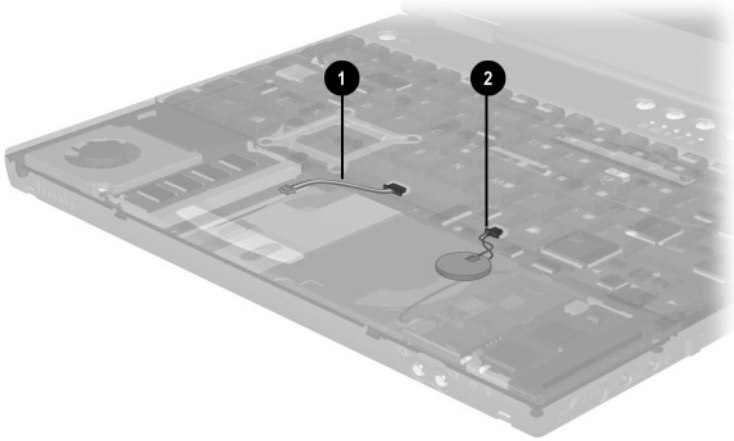

Figure 5-11. Routing the RTC Battery and TouchPad Cables
Before installing the palm rest on TouchPad models, make sure the TouchPad ❶ and RTC battery cables ❷ are routed through the respective notches in the palm rest (Figure 5-11).